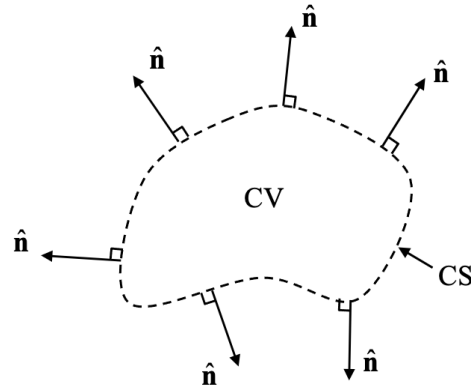

FIGURE 3.1. Illustration of control volume (CV), control surface (CS), and outward-pointing, unit normal vectors.
- A control volume (CV) (aka open system) is a particular volume chosen for study. Unlike a system, matter may change within a control volume. Note that the control volume does not need to remain fixed in size or location; it may move or change size and shape.
- A control surface (CS) is the surface enclosing a control volume. The orientation of the CS at a particular location is given by the direction of its outward-pointing unit normal vector, $\hat{\mathbf{n}}$, at that location. The outward-pointing unit normal vector has a magnitude of one, is perpendicular to the control surface, and always points out of the CV (Figure 3.1).